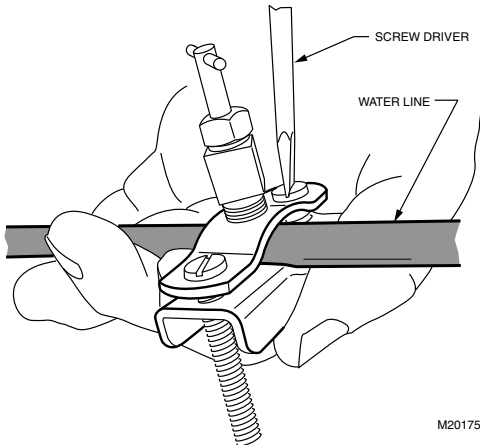

Fig. 6. Installing the saddle valve.
2. Use the self-piercing saddle valve (included) to tap into the water supply line at the location selected. See Fig. 6. If tapping into galvanized pipe, drain line and pre-drill 3/17 in. tap for saddle valve.